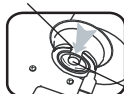

Fig. 2
3. Open the cartridge cover and insert the cartridge, with the head facing forward, so that the notch is facing up and is aligned with the valve guide (fig. 2).